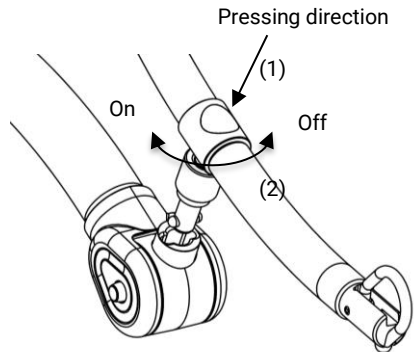

Fig. 1.6H
6. Attach the spreader bar. Rotate the attachment point so it is pointing upwards, insert the spreader bar and rotate 90° clockwise while pressing down firmly (Fig. 1.6H).